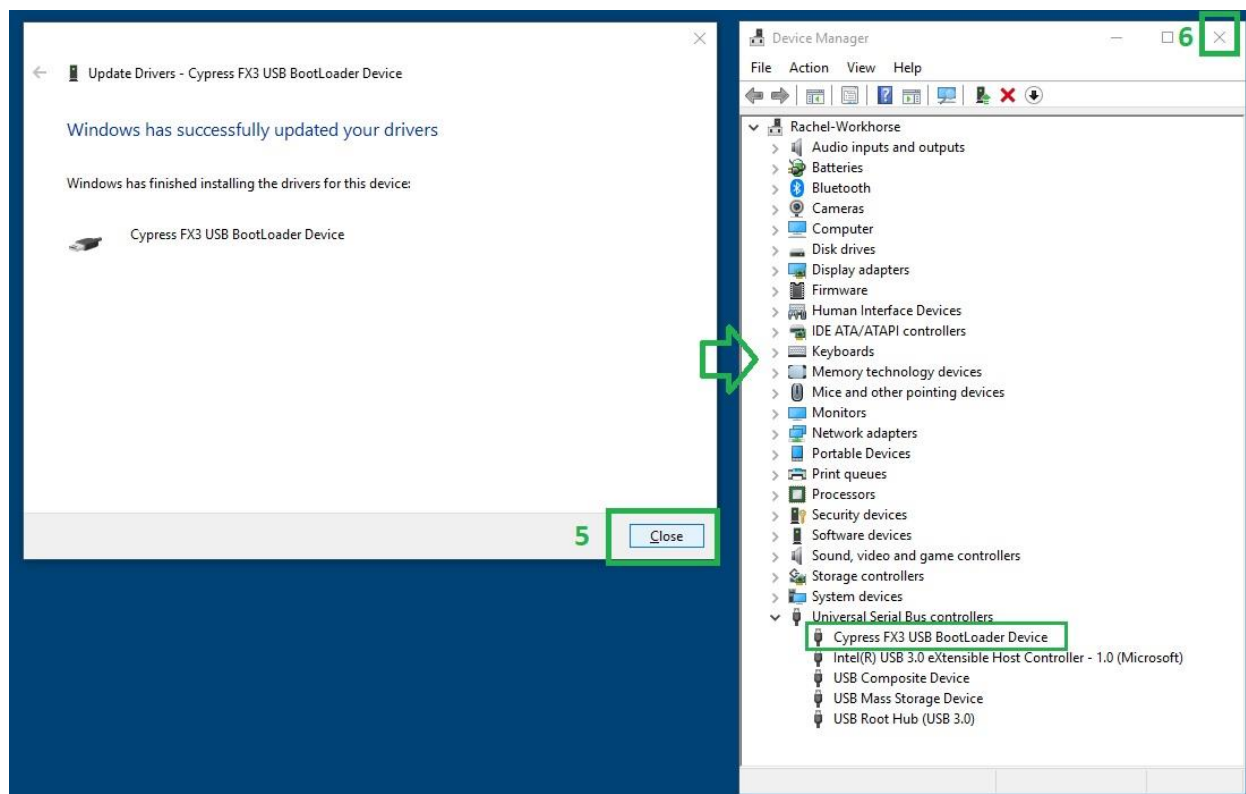

Figure 7. ADC256 driver installation. Step 3.
7. Verify that the driver was installed as *Cypress FX3 BootLoader Device* (before firmware is loaded) which turns to *Cypress FX3 StreamerExample Device* after firmware is loaded; see Figure 7 for one board or Figure 8 for two boards.